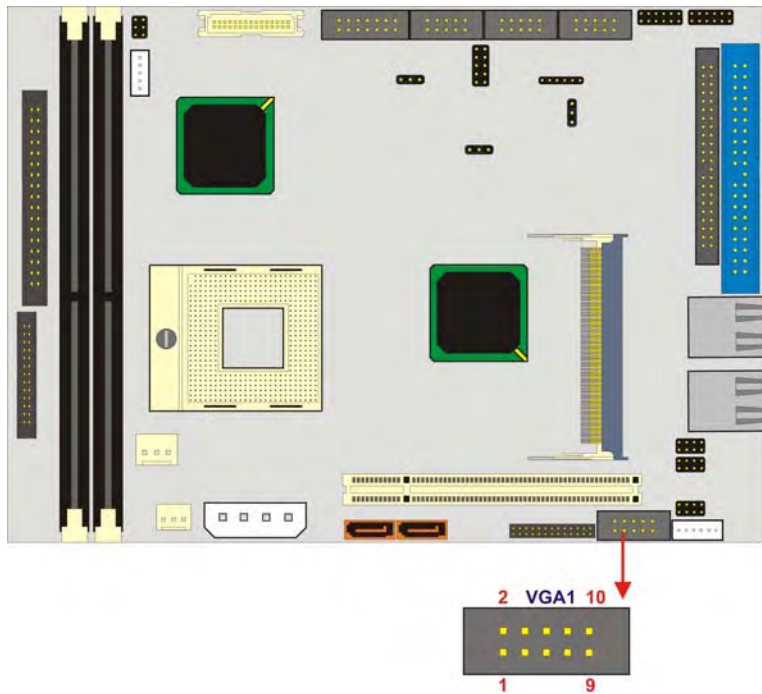

Figure 3-23: VGA Connector Location
- CN Location:** See Figure 3-23